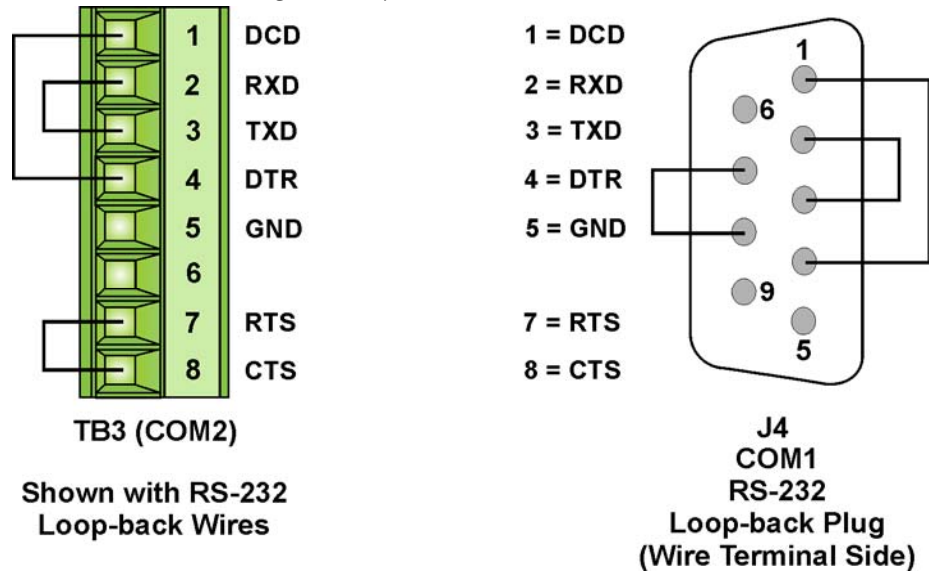

Figure 5-6. COM1 & COM2 RS-232 Loop-back Plug/Wires
- Port 1 - RS-232 uses a 9-pin female D-type loop-back plug (see *Figure 5-6*).
- Port 2 - RS-232 use loop-back wires (see *Figure 5-6*).